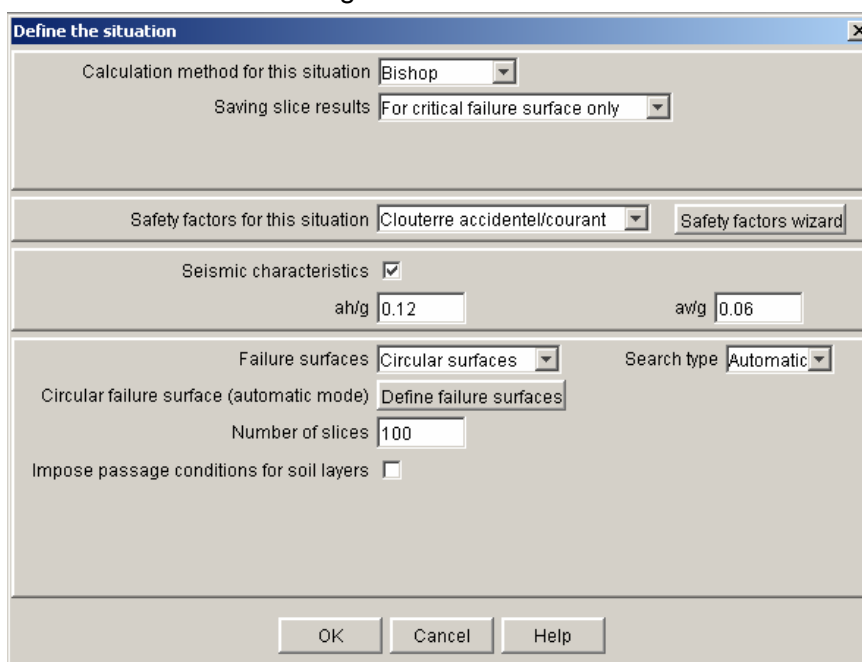

Figure 95: conditions dialogue box
The conditions settings can be displayed with "Stages and conditions" menu and the "Define selected set of conditions" option, with the same option in the pop up menu (right click on the situation label), or with the  button of the contextual toolbar. A dialogue box is opened (Figure 95). It is detailed in the following sub-sections.
Additional data will then be requested (Figure 95):
- Circular failure surfaces (manual mode): “Circular surfaces” choice and “Manual” search type (Figure 95).